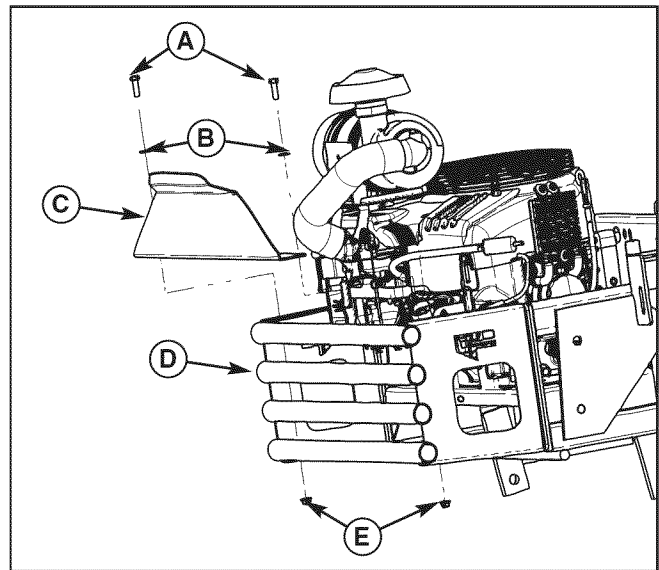

Figure 35. Remove the Rear Engine Shield
2. Remove the rear engine shield (C, Figure 35) from the top of the rear bumper (D) by removing the 3/8" hardware (A, B, & E) securing the shield to the bumper.